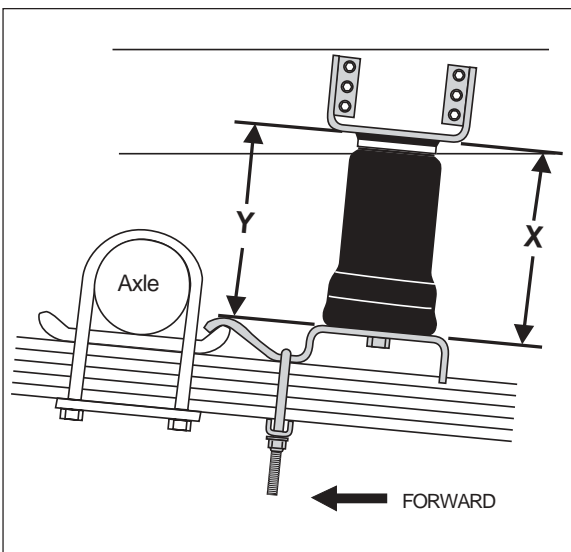

Figure 4
- Using the bracket as a template, mark four holes on each side of the bracket to be drilled. The X and Y dimensions (Figure 4) should be equal. The sleeve should be mounted so that it follows the natural arc of the suspension through its full travel (Figure 1 & 4). Remove the upper bracket and installation tool and drill the four $\frac{3}{8}$ " holes.